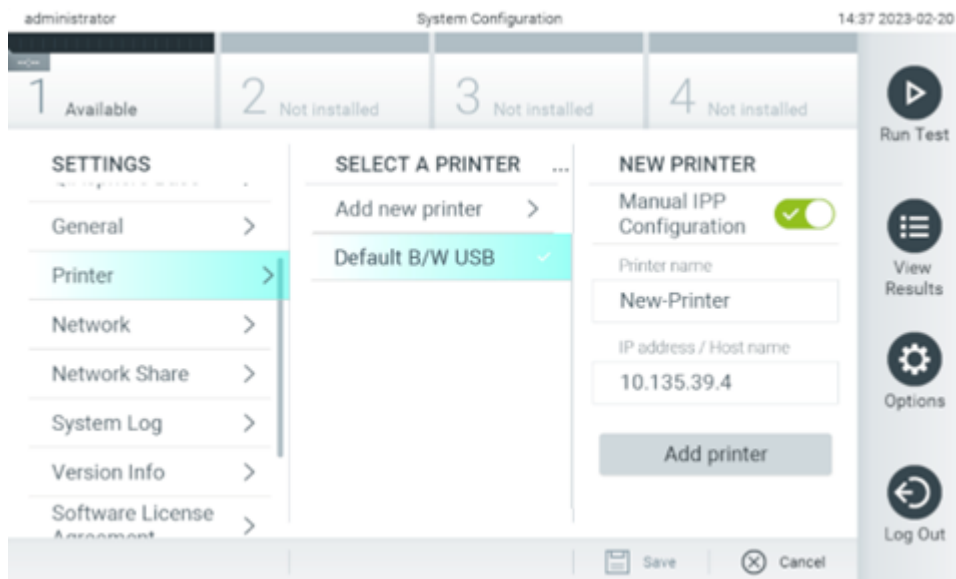

Figure 105. Printer installation with manual IPP configuration.
5. Click **Add Printer** (Figure 105).